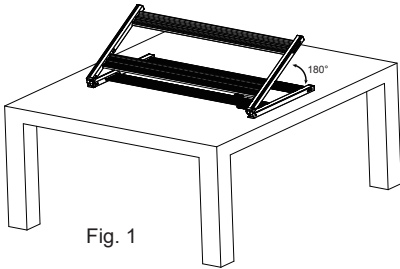

Fig. 1
- Place the light fixture on a flat platform. Unfold panels of the light fixture so that LEDs are downward (Fig. 1). Ensure hinge is fully extended and light panels are completely flat.